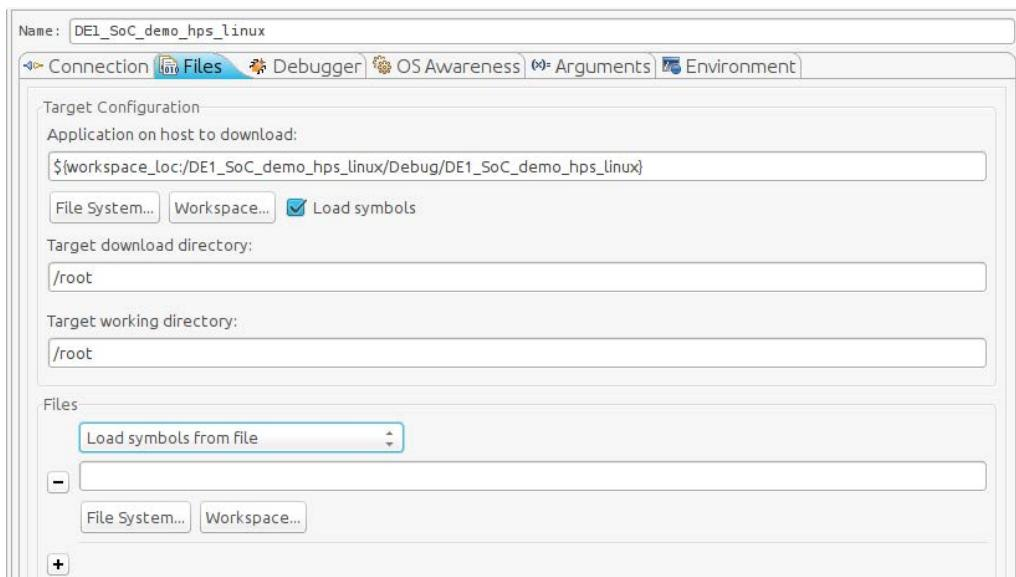

Figure 13-10. Debug Configuration "Files" Tab
- Set the "Target working directory" to "/root". You should have something similar to Figure 13-10.